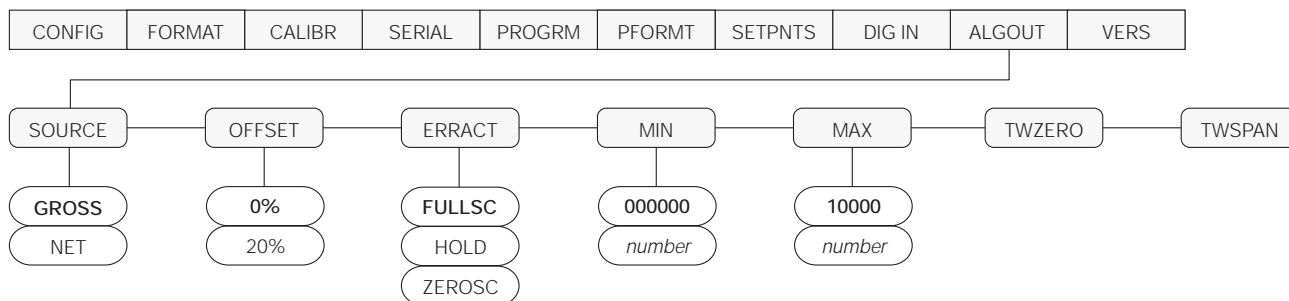

Figure 6. IQ plus 710 Analog Output Menu
- Enter setup mode and go to the ALGOUT menu (see Figure 6).